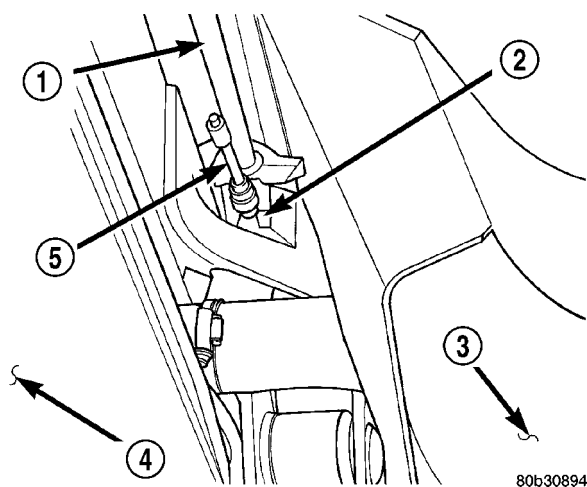

Fig. 100 Left Rear Parking Brake
(1) Raise vehicle using a frame contact type hoist or correctly jack and support the vehicle using jack stands. See Hoisting in Lubrication And Maintenance.
(2) Loose the park brake cable tensioner nut until tension is removed from cables.
(5) Remove the retainer clip securing the preferred rear park brake cable to the crossmember (Fig. 100).